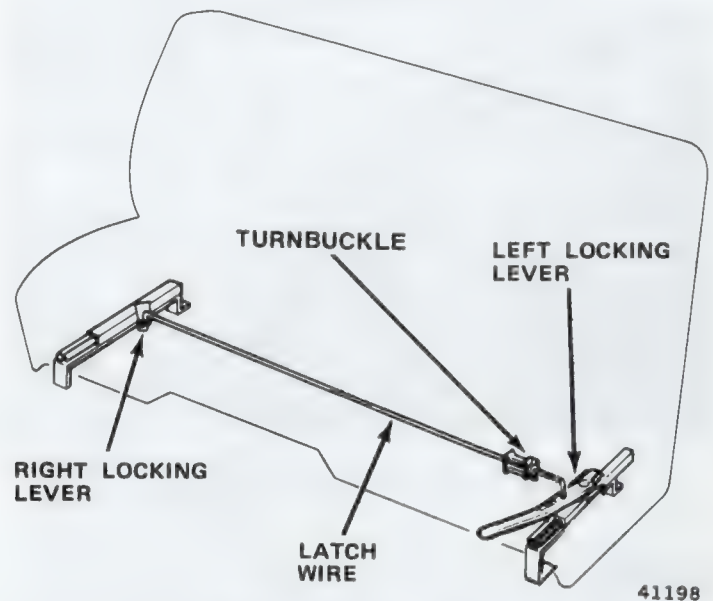

Fig 3M-9 Latch Wire Adjustment
- (1) Locate turnbuckle under the bench seats (fig. 3M-9).
- (2) Tighten turnbuckle until slack is removed from latch wire. Back off turnbuckle three turns.
- (3) Check seat adjusting slides for proper operation. If right slide will not release, tighten turnbuckle one turn at a time until proper operation is achieved. If right side will not lock, loosen turnbuckle one turn at a time until proper operation is achieved.